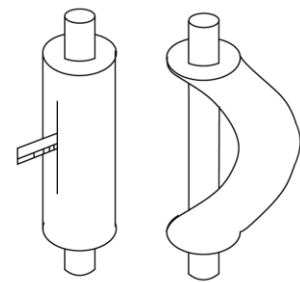

Fig. 4.3.3
- (4) In case that direct bending will open cracks to the pipe, first use sharp cutter to cut the insulating layer, as shown in Fig.4.3.3. Do not bend the pipe until it is exposed. When bending is done, wrap the pipe with insulating layer and then secure it with adhesive tape.